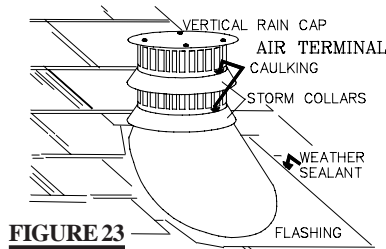

FIGURE 23
6. Remove nails from the shingles, above and to the sides of the chimney. Place the flashing over the air terminal and slide it underneath the sides and upper edge of the shingles. Ensure that the air terminal is properly centered within the flashing, giving a 3/4" margin all around. Fasten to the roof. Do NOT nail through the lower portion of the flashing. Make weather-tight by sealing with caulking. Where possible, cover the sides and top edges of the flashing with roofing material. **FIGURE 23.**